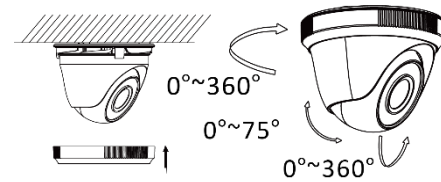

Figure 2-7 3-axis Adjustment
7. Adjust the camera according to the figure 2-7 to get an optimum angle and tighten the trim ring.